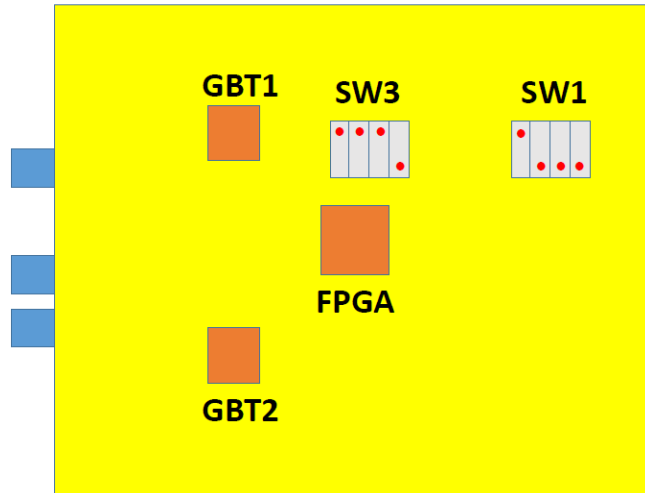

Figure 6: Access to the FPGA via JTAG cable
10.1. Install SW3 switches per Fig.6 to be able to access the FPGA via JTAG cable